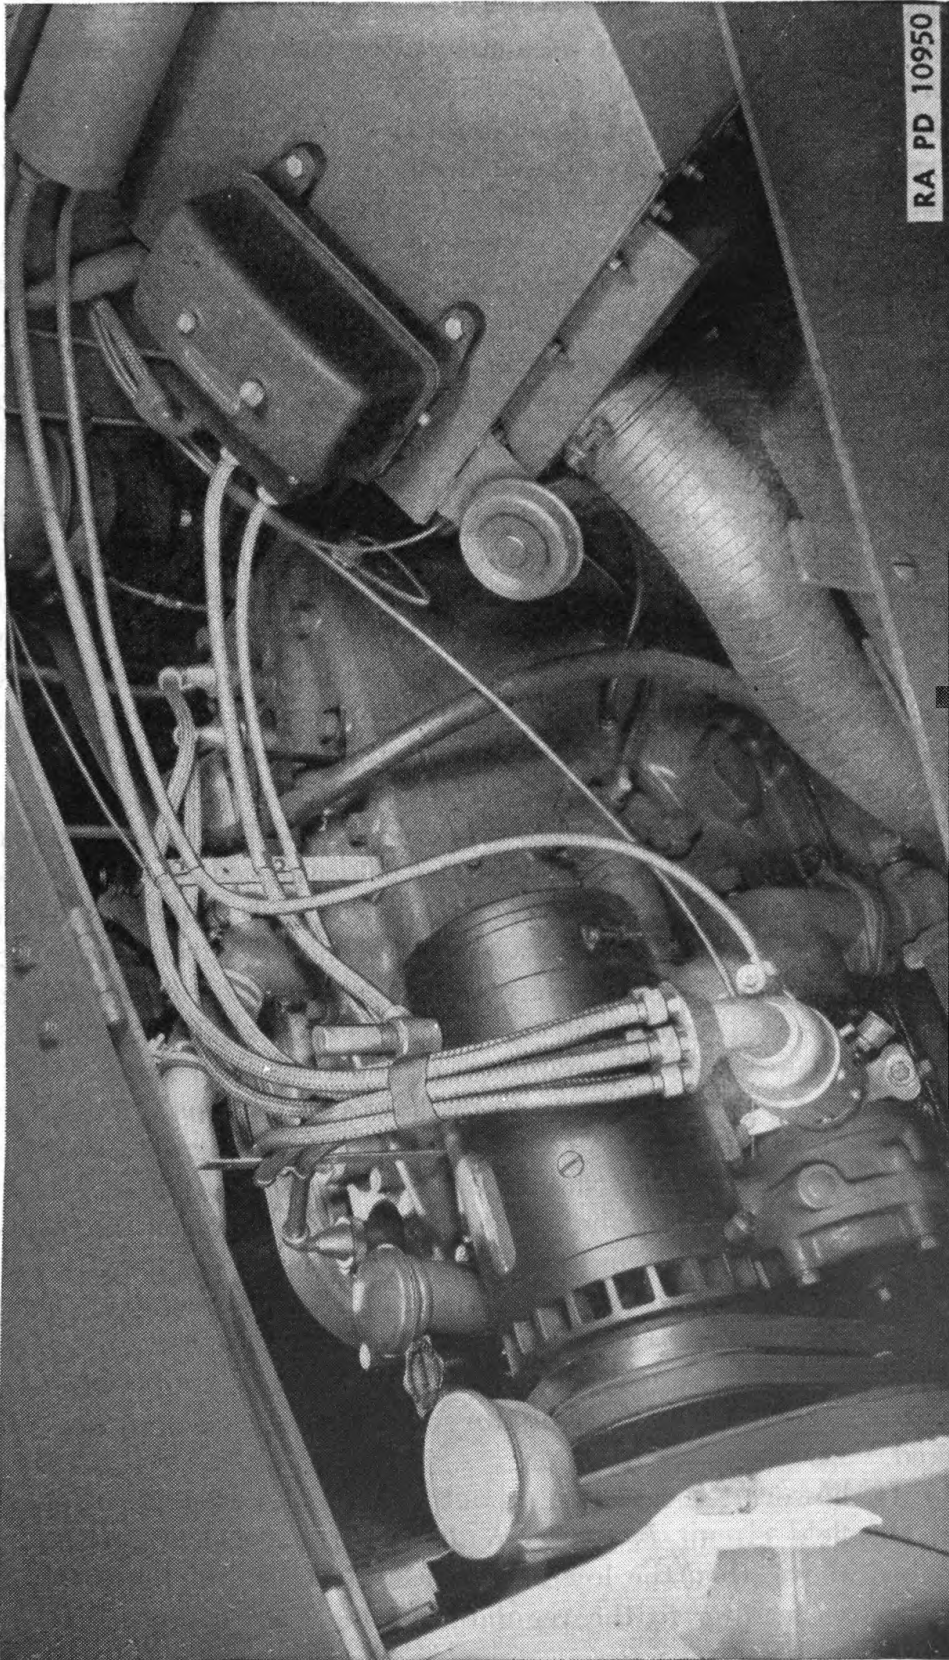

FIGURE 30.—Generator and regulator, installed.
22. Description of circuit (fig. 30).—The generator is a 12-volt, 4-brush, 4-pole heavy duty machine, supported on the left side of the engine about level with the top at the front. It is driven by V-belts from the crank shaft. The regulator consists of a cut-out relay, a voltage regulating coil, and a current regulating coil, each controlling a pair of contacts. The regulator is in the circuit between the battery and the generator and automatically keeps the voltage and current delivered by the generator within rated limits. This regulator is mounted in front of the dash, at the left, under the hood of the engine, and is inclosed in a metal casing.